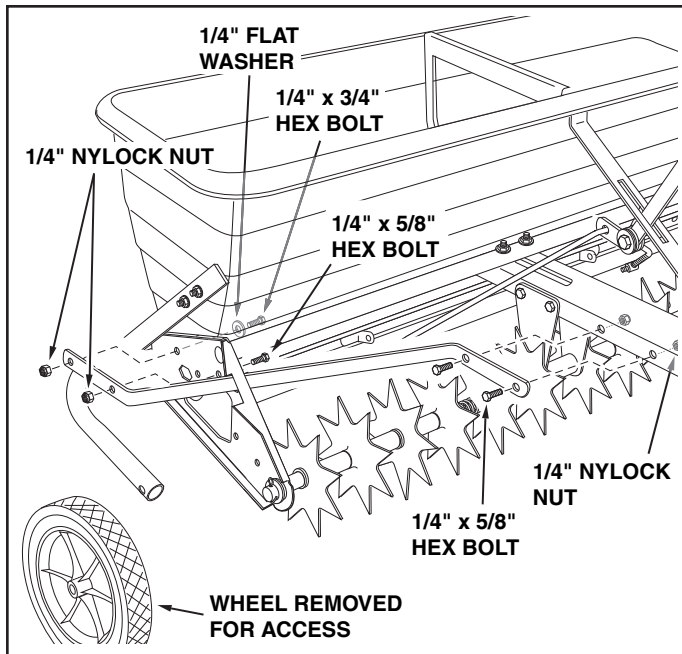

FIGURE 5
- (2) 3/4" or Adjustable Wrenches (for optional wheel removal in figure 5)
10. Insert a tongue brace through the slot in the end plate. Fasten the front hole of the tongue brace to the end plate using a 1/4" x 5/8" hex bolt and 1/4" hex nut. For the rear hole use a 1/4" x 3/4" hex bolt, 1/4" flat washer and 1/4" hex nut, with the bolt and washer assembled from inside the poly hopper. See figure 5. **Do not tighten yet.**
11. Fasten the other end of the tongue brace to the side of the tongue using two 1/4" x 5/8" hex bolts and 1/4" hex nuts. **Do not tighten yet.** See figure 5.